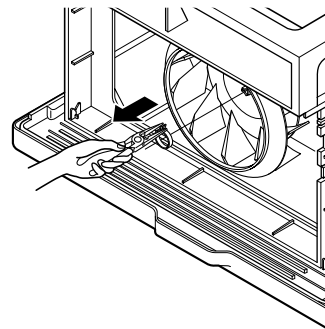

FIG. 29
8. Remove the clamp which secures the turbo fan with plier. (See Fig. 29)